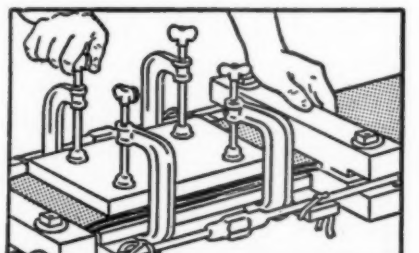

Figure 14
12. Apply the final or sticking coat of cement. Quickly place cemented ends together, matching carefully, and press between boards with C clamps. A few tacks hammered in splice will help to keep ends from shifting (Fig. 14).